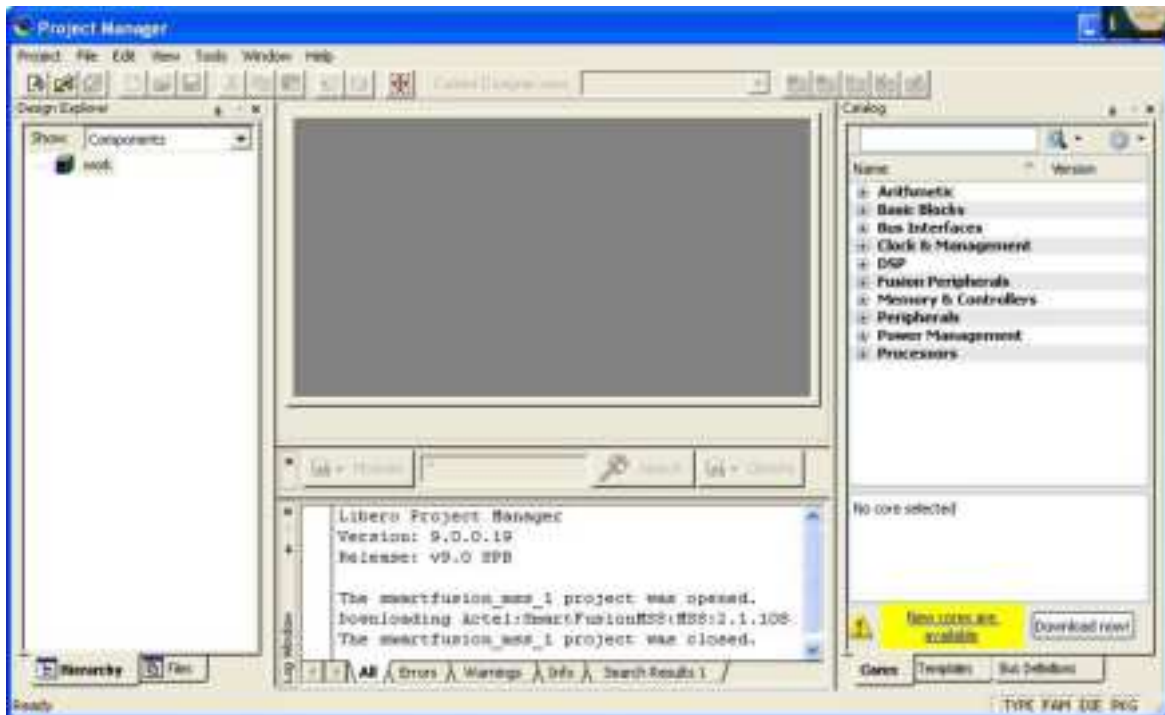

Figure 1-1 • Libero IDE Project Manager
1. From the **Start** menu, choose **Programs > Libero IDE v9.0 > Libero IDE v9.0**. The Libero IDE Project Manager opens (Figure 1-1).